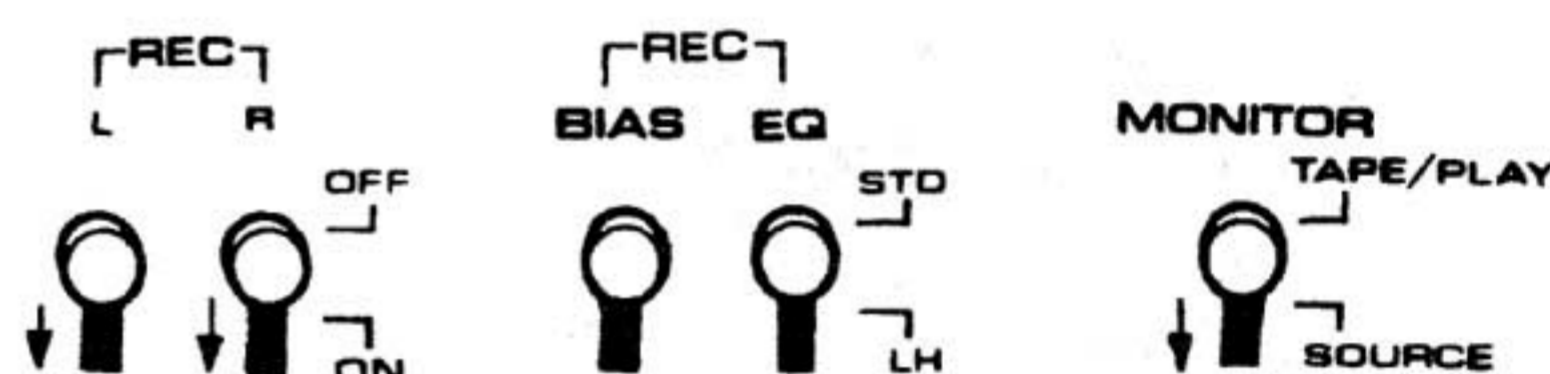

Fig. 24
5. Set BIAS and EQ switches according to the type of employed tape (Fig. 24). For detailed description of the operation of these switches, refer to the section "The REC Bias & EQ Switches" on page 11.
6. Set REC switches (L & R) to ON (Fig. 24). When these switches are set to ON, red indication appears in switch slots.